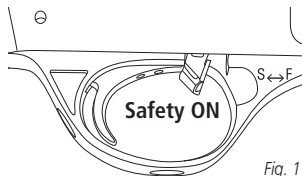

Fig. 1
- To set the safety to 'ON', pull safety button to the rear. In this position, the trigger cannot be pulled and the gun cannot be fired. (Fig. 1)
CAUTION: Until you are actually ready to shoot, keep the safety button in the "ON" position (Fig. 1).